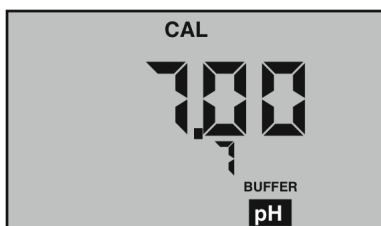

Figure 6
4. Press  to enter calibration mode. The “**CAL**”, “**BUFFER**” and “**7**” annunciators will appear (see Figure 6). Displayed value will be the uncalibrated sensor.